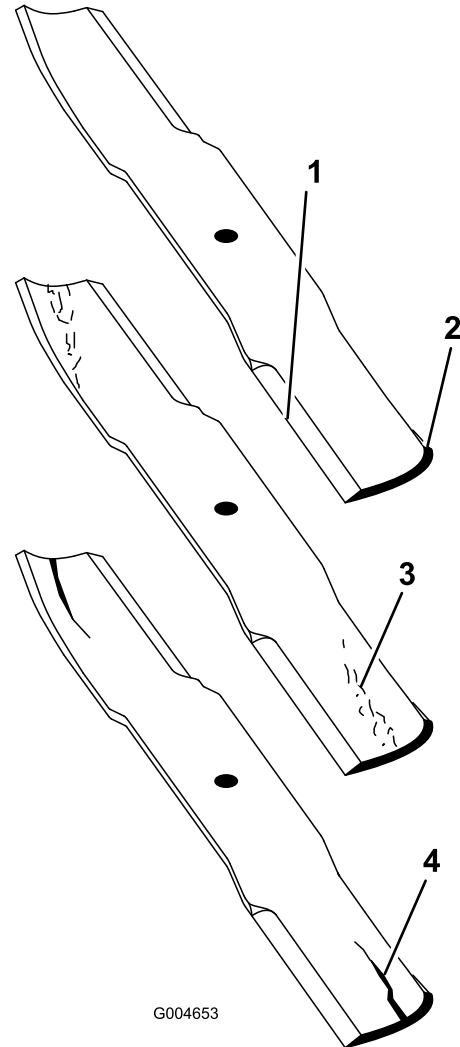

Figure 127
2. Examine the cutting ends of the blade carefully, especially where the flat and curved parts of the blade meet (Figure 127).
Note: Because sand and abrasive material can wear away the metal that connects the flat and curved parts of the blade, check the blade before using the mower. If you notice wear (Figure 127), replace the blade.